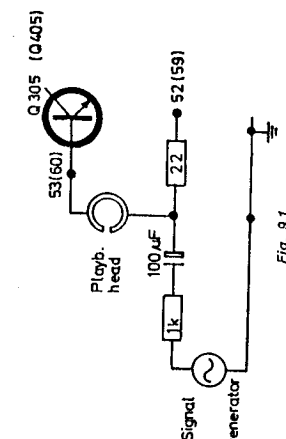

Fig. 9.1.
Insert a 22 ohm resistor in series with playback head and junction 52 (59). Connect a signal generator in series with a 1 kohm resistor and a 100 μ F capacitor and playback head, see fig. 9.1.